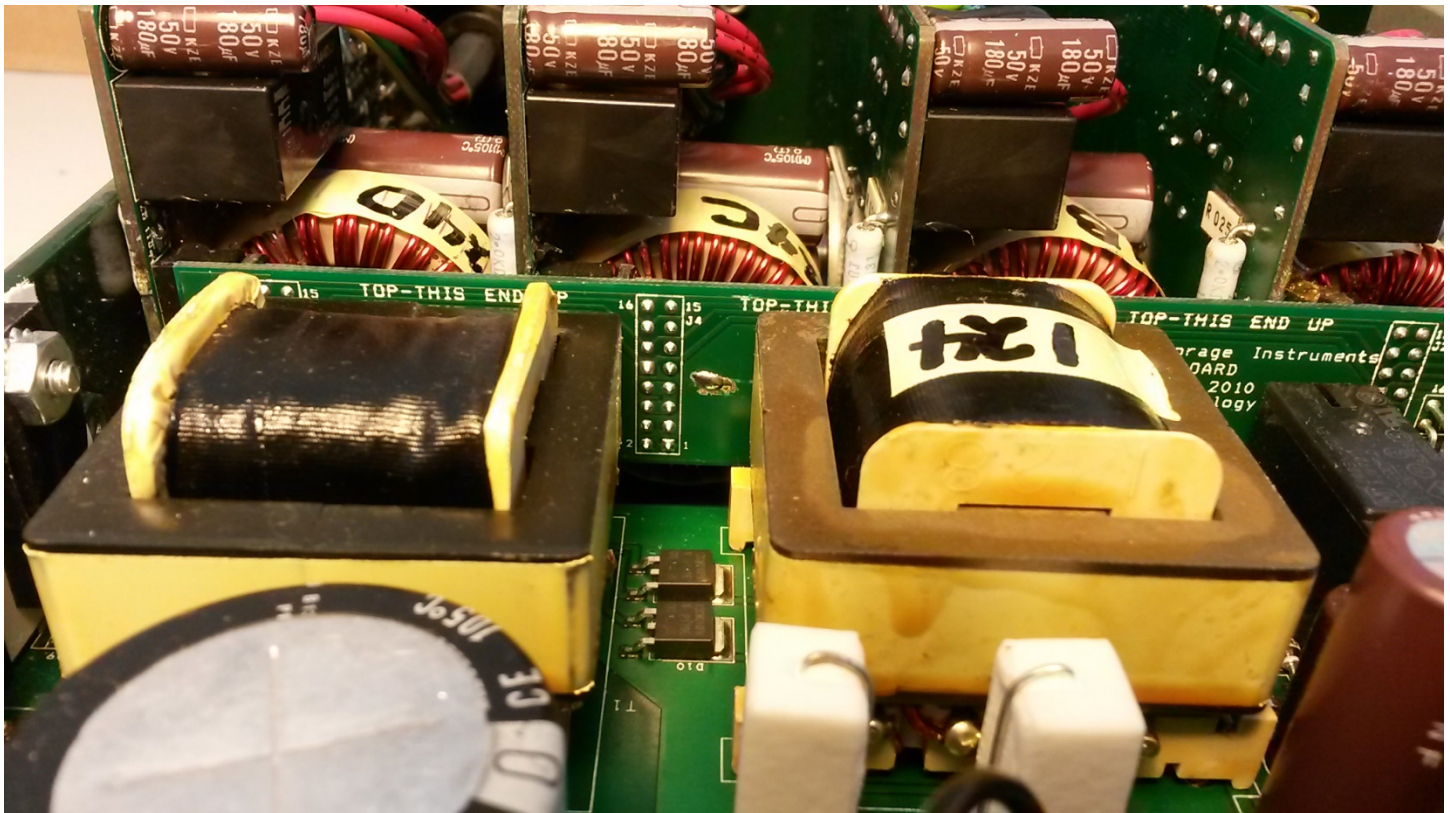

Figure 1.
A small capacitor needs to be added between the +38V auxiliary and the +50V supply to suppress a voltage spike that occurs upon initiation of service due to an unforeseen problem since 2008. Luckily both contact points are easy to access from the back side of the bus PCB as shown in figure 1.
Step 2 – Using a small knife, scrape the green solder mask off a small spot on the bus PCB and tin with a spot of solder as shown in Figure 1. Use a rosin type solder flux or similar to ensure a clean contact and wetting.